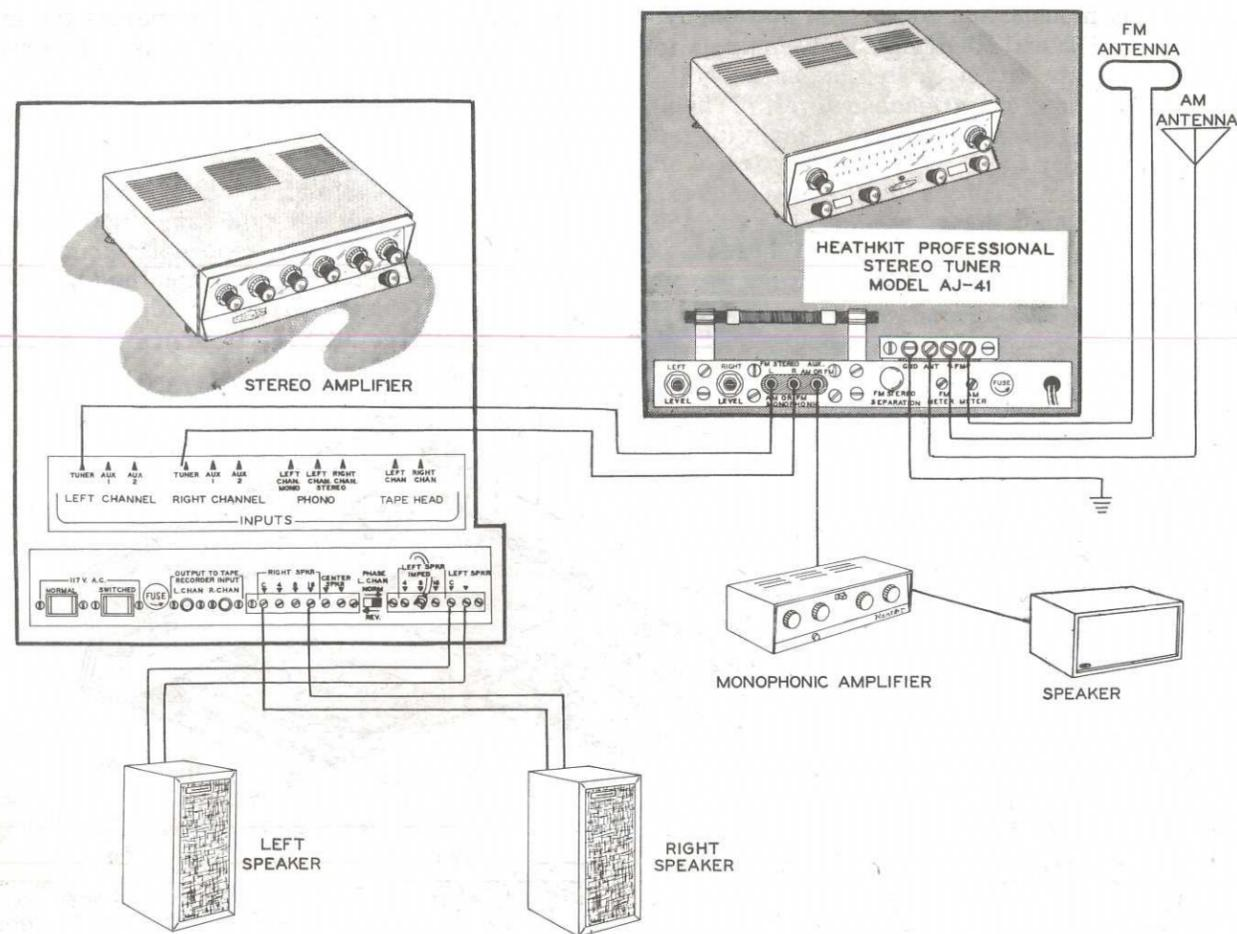

Figure 19
- () Connect one of the prepared audio cables from the FM "A" output socket of the Tuner to the left channel input socket of the amplifier. Connect the other audio cable from the FM "B" output socket to the right channel input socket of the amplifier. See Figure 19.
- () If there is a FM station in your area, connect the FM line antenna and the ground lead to the FM antenna screws. Connect a 300 Ω FM or TV antenna to the FM antenna screws if only distant FM stations are available. See Figure 19 on Page 52. Switch the MODE SELECTOR switch to FM. Turn the FM TUNING control to tune in a station. Find the correct frequency of this station in the radio listing of your local newspaper, then slide the dial pointer to indicate the correct frequency. Now crimp the fingers of the dial pointer to the dial cord. Be careful not to cut the dial cord.
Refer to Figure 19 for aid in installing the tuner in your system.